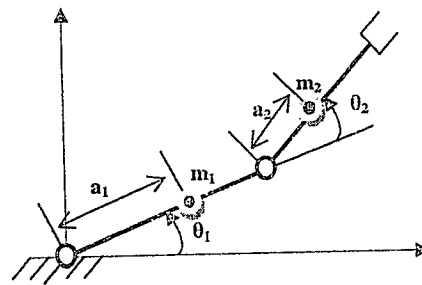

Fig. 2
5. Derive the dynamic equations for the two link manipulator shown in Fig.2.